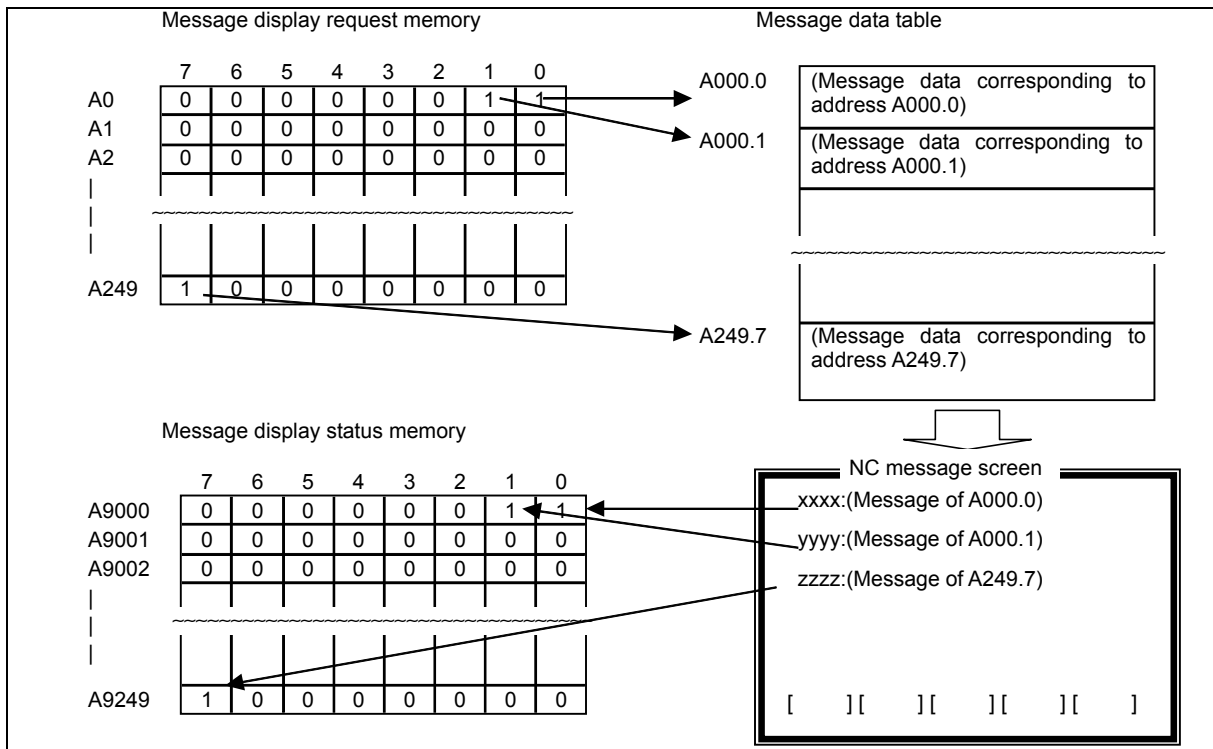

Fig. 4.11.1 (a) Message display request memory, message display status memory, and message data table
- (a) In the program, specify 0 in the parameter and set ACT to 1. See Fig. 4.11.1 (a).